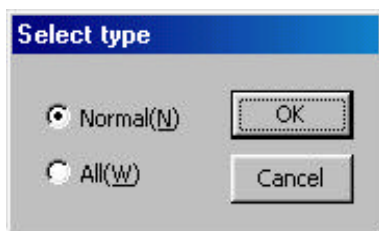

Figure 7.31 “Select type” dialog box
Click “*Upload (U)*” in the “Program Manager” menu to display the “Select type” dialog box (see Figure 7.31).